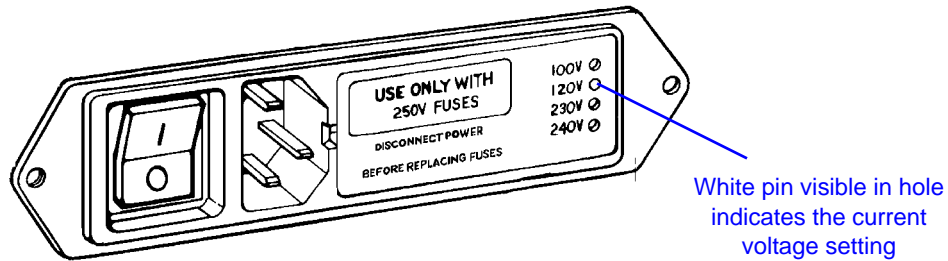

Figure 4-2. Power Input Connector with Voltage Setting
2. Inspect the power input connector. There are four holes in a vertical line at the right side of the connector, each corresponding to a different line voltage. The current voltage setting is indicated by a white plastic pin visible in one of the holes, as shown in Figure 4-2.
9. Re-install the fuse holder into the connector. Ensure that the indicator pin now indicates the correct input voltage. See Figure 4-2 on page 4-4 for reference.